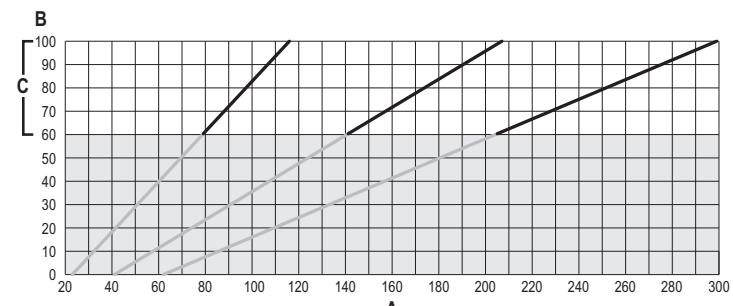

fig. 40
- Press the **heating buttons** (details 3 and 4 - fig. 1) to increase or decrease the heating capacity (min. = 00 - max. = 100). See "Heating Capacity Adjustment" diagram (fig. 40).